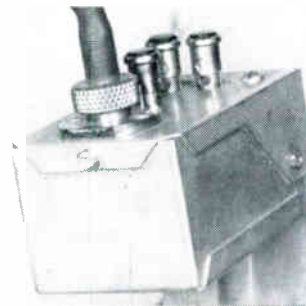

FIGURE 1
**Philco Television Antenna Jigs — Antenna Jig Part No. 45-1736 (See Figures 1 and 1A)**